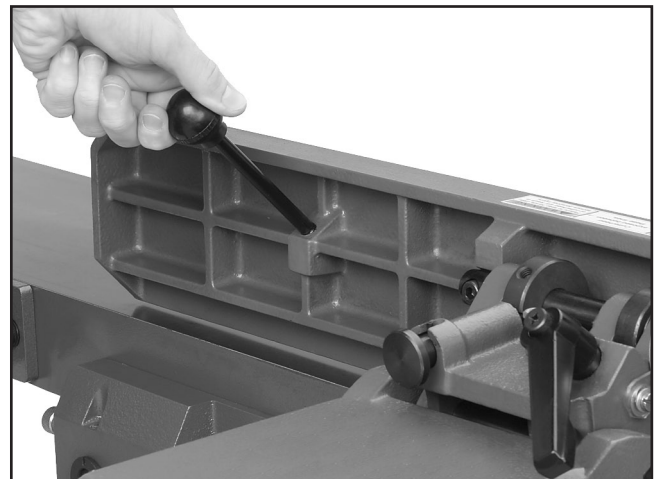

Figure 16. Installing the fence tilt lever.
4. Install the tilt lever as shown in **Figure 16**.